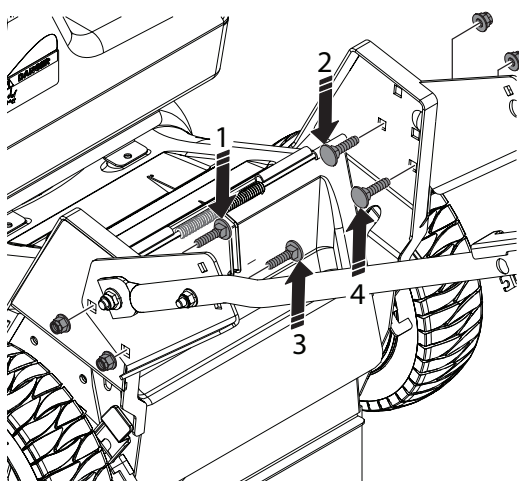

Figure 1-3. Secure the Handle Bar Assembly
3. While holding the handle bar assembly in place, Secure using four (4) 3/8-16 x 3/4" carriage bolts and four (4) 3/8-16 elastic flange nuts provided as shown Tighten mounting hardware and pivot bolts See Figure 1-3.